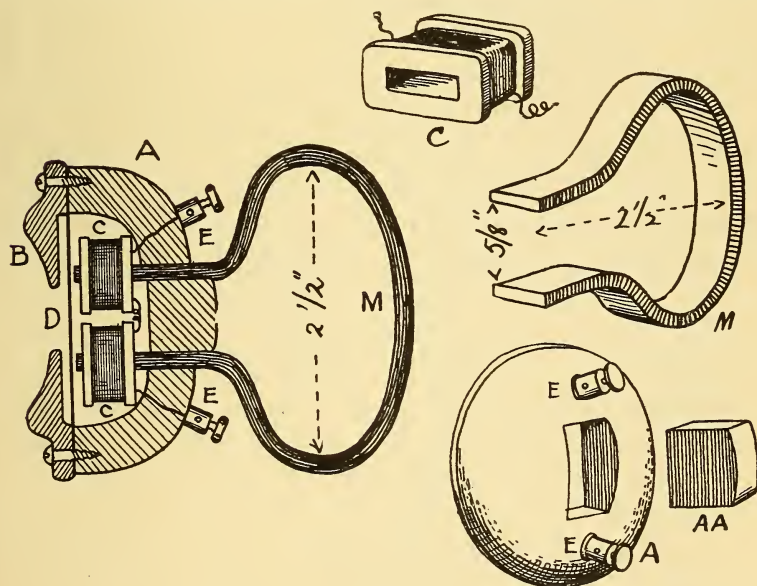

Fig. 8
Another form of receiver is shown at Fig. 8. This is a double-pole receiver, with the coils of fine wire arranged on the ends of a bent band of steel and located in the cup (A), so that the ends of the magnet are close to the diaphragm (D). Fig. 8 is a sectional view of an assembled receiver, but